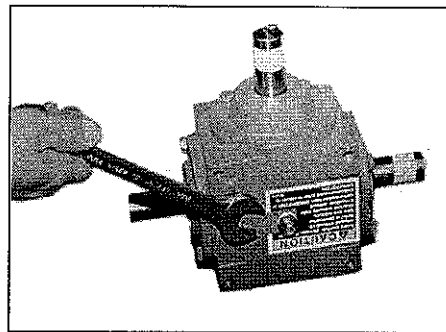

figure 23
3. Remove the vent plug and drain plug (figures 23 and 24). Reinstall plugs in the opposite holes. Tighten both plugs securely.